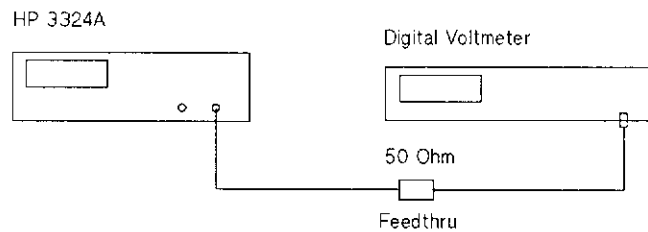

Figure C-8. DC Offset Test Set-Up
1. Connect the equipment as shown in Figure C-8. Set the voltmeter to measure DC voltage.